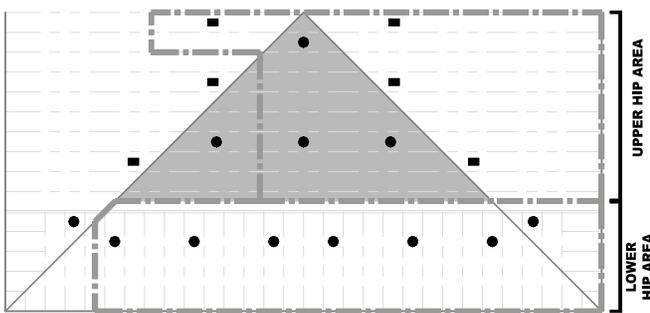

FIGURE 18A
- Calculate up to the 7 most demanding contiguous sprinklers along the eave. This may include sprinklers on both sides of the hip line as shown. See Figure 18A and Figure 18B.
If there are 4 sprinklers or less in the shaded area (Figure 18A):